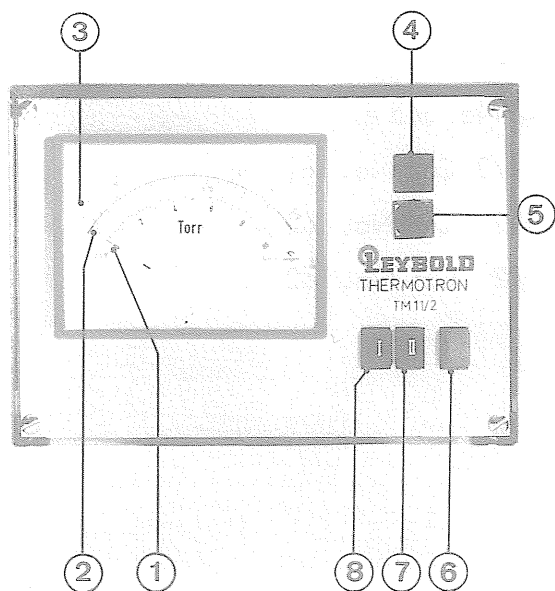

Fig. 1
5. Control unit and method of connecting the gauge heads to the control unit (see Figs 1 and 2)
Figs 1 to 4
Key to Figs 1 to 4